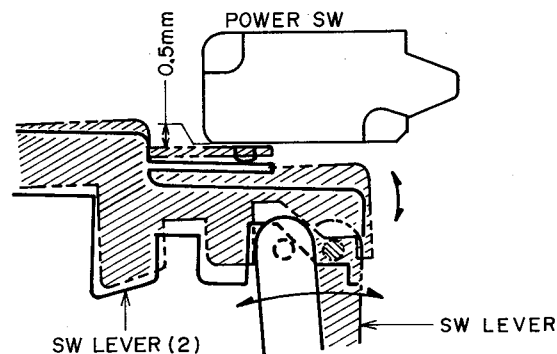

Fig. 5-5
- 4) When on start or on cut, the power SW is turned on by the SW lever (2). At this point make sure that the distance between the SW lever (2) and the power SW is less than 0.5 mm as in Fig. 5-5. This distance can be adjusted by loosening the screw which fixes the power SW and by moving the position of the SW back and forth until the correct distance is achieved. When the player is turned on and off manually, the distance should also be between 0.1 mm and 0.5 mm.
- 6) With the start operation, the main gear will rotate once and the SW lever (2) will return to the stop position. In order to keep power SW on, the switch lever moves in accordance with the position of the tone arm as in Fig. 5-5 and keeps the power SW in the on